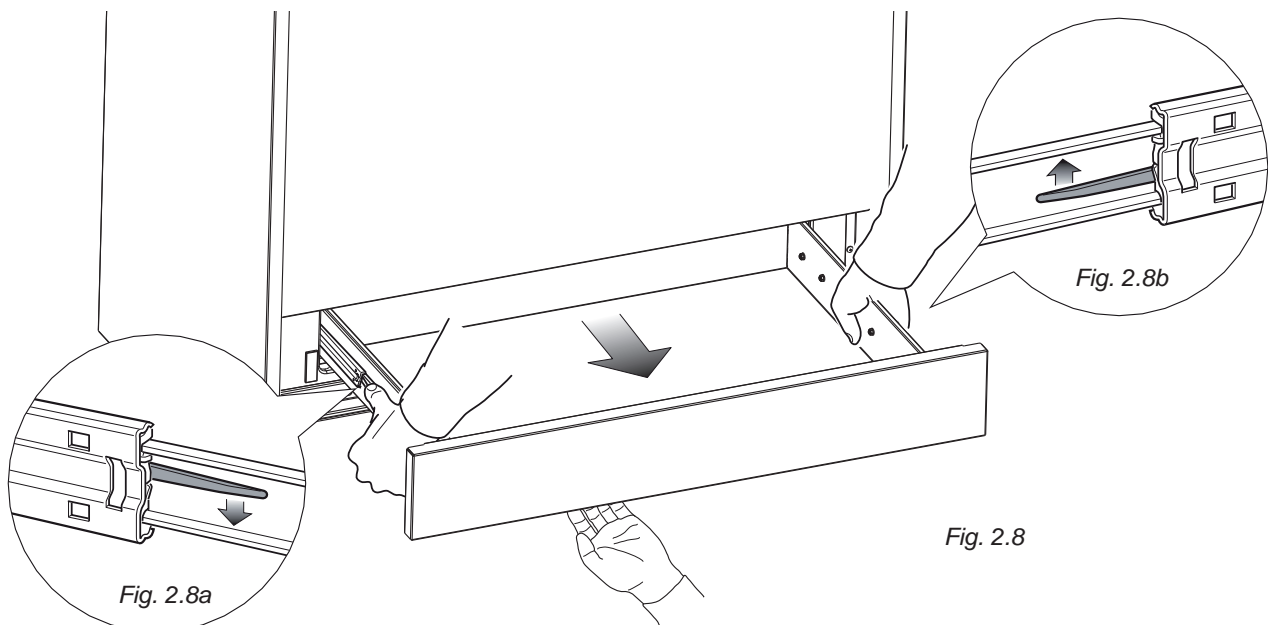

Fig. 2.8
1. Open the drawer completely (fig. 2.8)
3. Remove the drawer holding the levers in the same position (fig. 2.8).